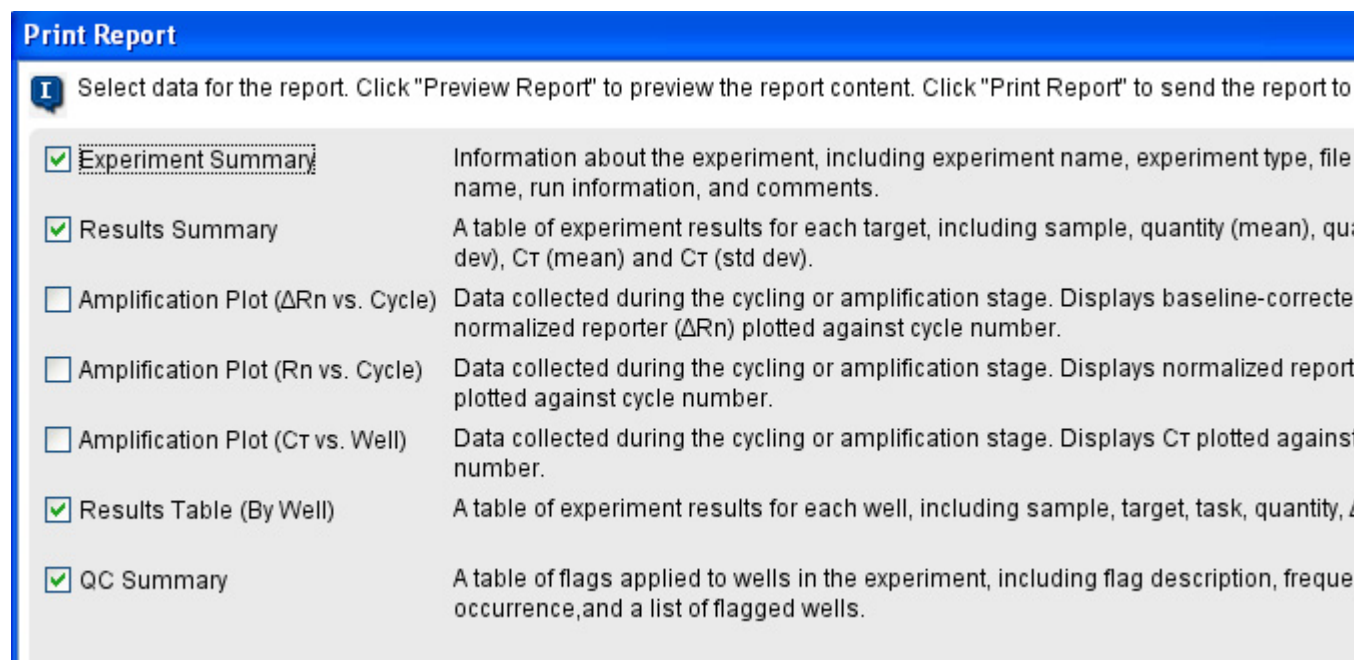

Figure 29 Print Report screen
1. In the toolbar, click **Print Report** to display the Print Report screen (Figure 29).